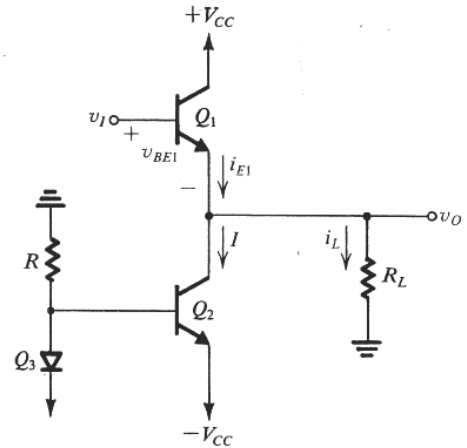

Fig. 11.2
11.1 A class A emitter follower, biased using the circuit shown in Fig. 11.2, uses $V_{CC} = 5\text{ V}$, $R = R_L = 1\text{ k}\Omega$, with all transistors (including Q_3) identical. Assume $V_{BE} = 0.7\text{ V}$, $V_{CEsat} = 0.3\text{ V}$, and β to be very large. For linear operation, what are the upper and lower limits of output voltage, and the corresponding inputs? How do these values change if the emitter-base junction area of Q_3 is made twice as big as that of Q_2 ? Half as big?
11.2 A source-follower circuit using NMOS transistors is constructed following the pattern shown in Fig. 11.2. All three transistors used are identical, with $V_t = 1\text{ V}$ and $\mu_n C_{ox} W/L = 20\text{ mA/V}^2$; $V_{CC} = 5\text{ V}$, $R = R_L = 1\text{ k}\Omega$. For linear operation, what are the upper and lower limits of the output voltage, and the corresponding inputs?
D 11.3 Using the follower configuration shown in Fig. 11.2 with $\pm 9\text{-V}$ supplies, provide a design capable of $\pm 7\text{-V}$ outputs with a $1\text{-k}\Omega$ load, using the smallest possible total supply current. You are provided with four identical, high- β BJTs and a resistor of your choice.
D 11.4 An emitter follower using the circuit of Fig. 11.2, for which the output voltage range is $\pm 5\text{ V}$, is required using $V_{CC} = 10\text{ V}$. The circuit is to be designed such that the current variation in the emitter-follower transistor is no greater than a factor of 10, for load resistances as low as $100\ \Omega$. What is the value of R required? Find the incremental voltage gain of the resulting follower at $v_o = +5, 0,$ and -5 V , with a $100\text{-}\Omega$ load. What is the percentage change in gain over this range of v_o ?